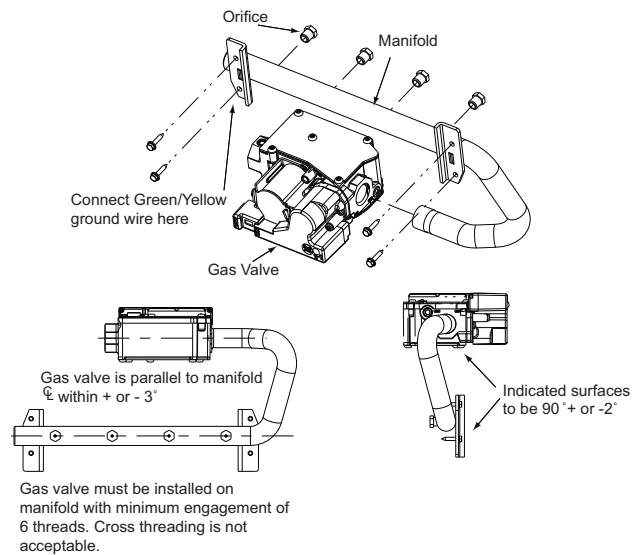

Fig. 2 - Modulating Gas Valve with Orifices
3. Support the manifold and remove the 4 screws that secure the manifold assembly to the burner box and set aside. See Fig. 2.